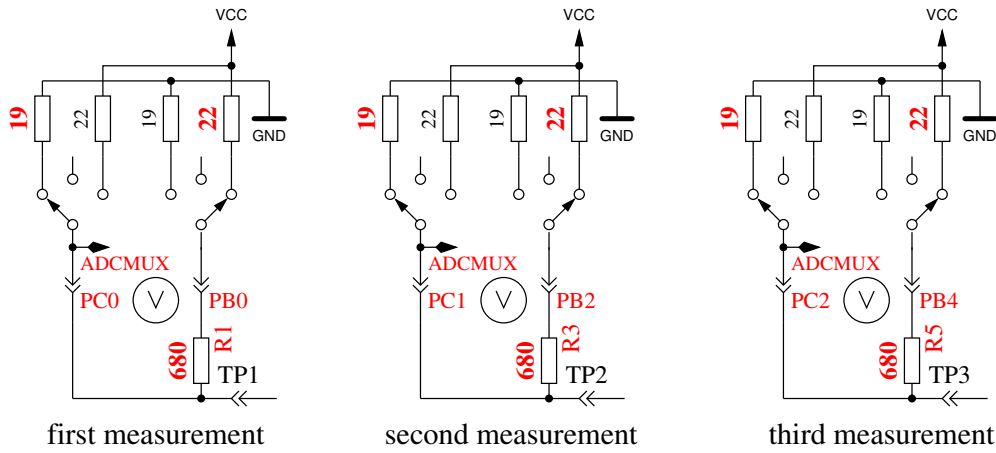

Figure 5.56. Measurement of internal resistance of Port C switched to GND
5. **This step tests the capability of GND (-) connected 470kΩ resistors (H) to pull the test pins to GND.** Row 1 shows the text “RH-”. Row 2 should display zero for all three pins.
6. **This step tests the capability of VCC (+) connected 470kΩ resistors (H) to pull the test pins to VCC (+).** Row 1 shows the text “RH+”. The results are shown als difference to VCC and should be near zero. Great differences from the best value for test 5 and 6 are errors such as isolation problem, flux material or damaged port.
8. **Measuring of internal resistance of pin output switched to the GND signal.** This test and the follwing tests will only be done, if the option AUTO_CAL is selected. The internal resistance of the port C outputs switched to GND (-) are measured with the current of to VCC (+) switched 680Ω resistors, see Figure 5.56. Only the three pins of the ADC port are measured, the resistor port B (PB0,PB2 and PB4) can not be measured without hardware modification. Is is assumed that the port resistance of the different ports are nearly identical. The resistor value will be shown in the next test.